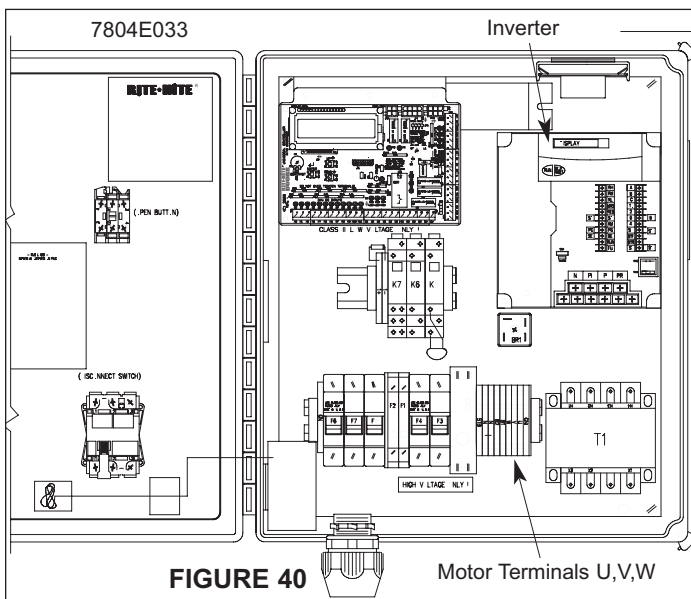

FIGURE 40
2. If the door starts closing, turn the disconnect switch off and lock and tag out the power supply. Have a qualified electrician reverse any two of the three motor leads, terminals U, V or W in the control box, **Figure 40**. Reconnect the electrical power and retest the door.